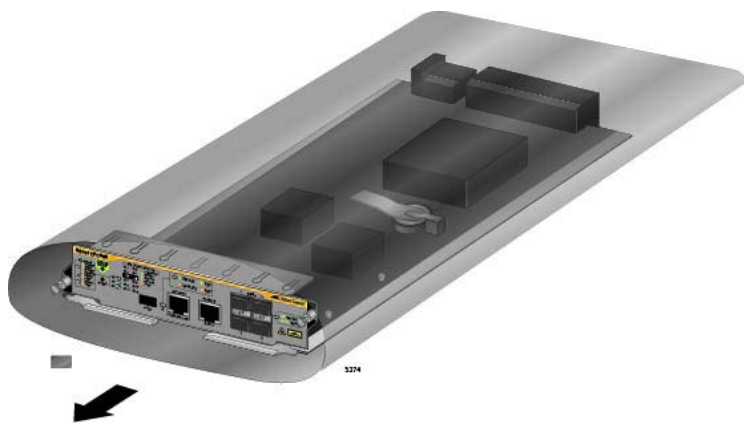

Figure 77. Removing the AT-SBx81CFC960 Controller Fabric Card from the Anti-static Bag
3. Carefully remove the controller card from the anti-static bag. Refer to Figure 77.